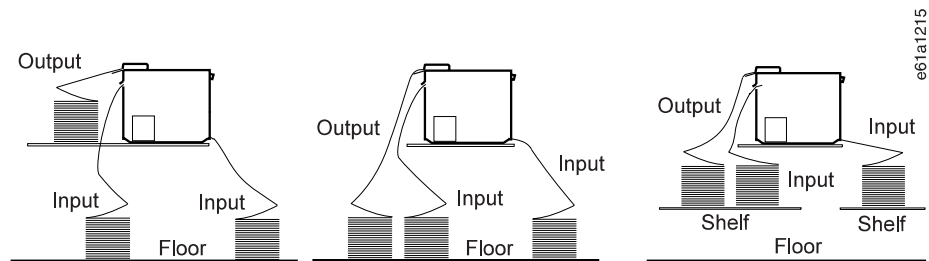

Figure 37. Stacking Forms for Dual Push. See page 32 if your printer uses the optional printer stand.
1. Stack the forms as shown in Figure 37. The top of the input forms stack should be lower than the bottom of the printer.
For successful forms parking, the input forms stack *must* be lower than the printer. Figure 37 on page 58 provides an example.